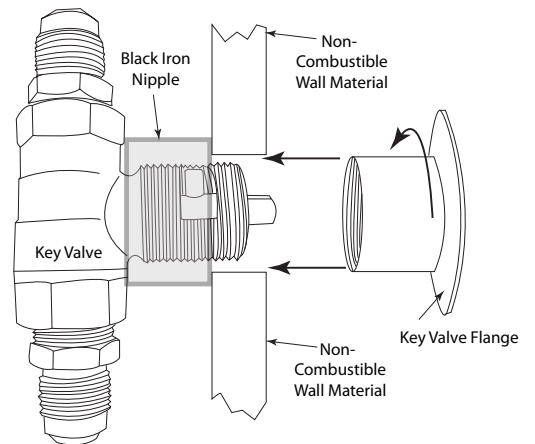

Fig. 7 Typical installation.
3. The primary gas shut-off (not supplied) will require a $\frac{1}{2}$ " male flared fitting to enable connection of the stainless steel flex gas line supplied with the fire pit (see Fig. 7 page 9).
The key valve contents: 1- key valve, 1- key and 1- flange. (See Fig. 6). The valve requires a 1¼" round clearance hole in the non-combustible enclosure wall. See the instructions supplied with the key valve for more specific details. Note: Be sure to leak test all fitting before operation. Fig. 7 shows an example of a typical installation.